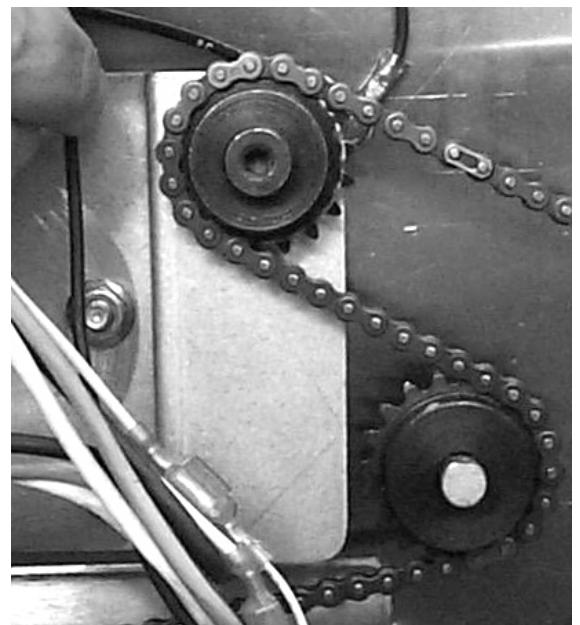

Fig. 5: With the chain on the upper idler, position the bracket on the cabinet studs and bolt into place.
- Position the new upper idler on the studs in the cabinet and tighten into place. There should be 1/8-inch deflection from center in the chain without pressure from the tensioner applied. Fig 5. **Note:** Ensure the drive motor is mounted as far forward as possible, which ensures adequate slack in the chain.